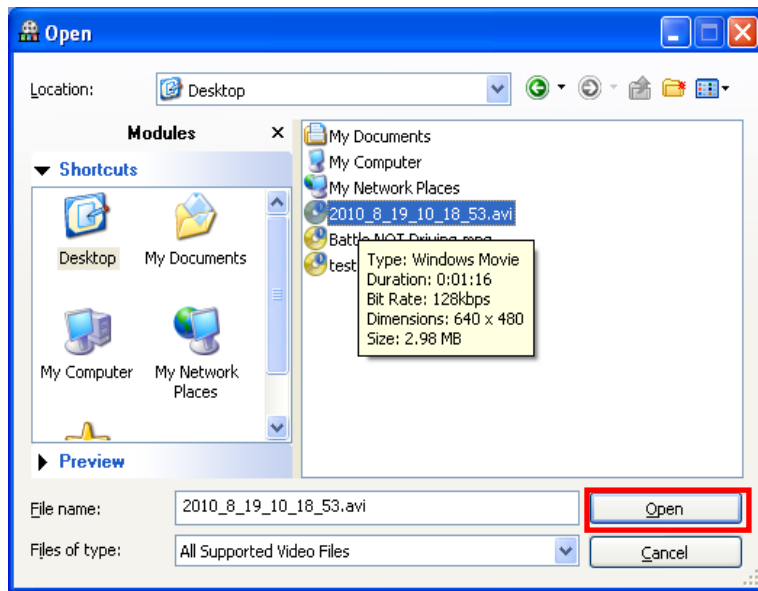

Figure 167. AAR – Select File to Import
5. An OPEN dialog box will appear. Search to the location of the file you want to import, select the desired file, and click [OPEN] (Figure 167).